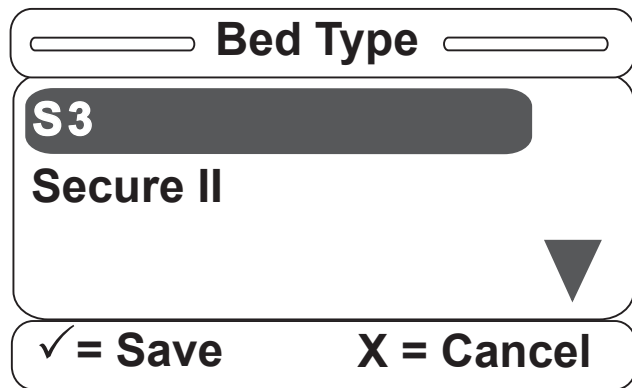

Figure S-2
2. Once the user selects the Bed Type item and hits "Enter" on the footboard panel, Figure S-2 will be displayed. To select an item hit "Enter" on the footboard panel. **Choose S3.**